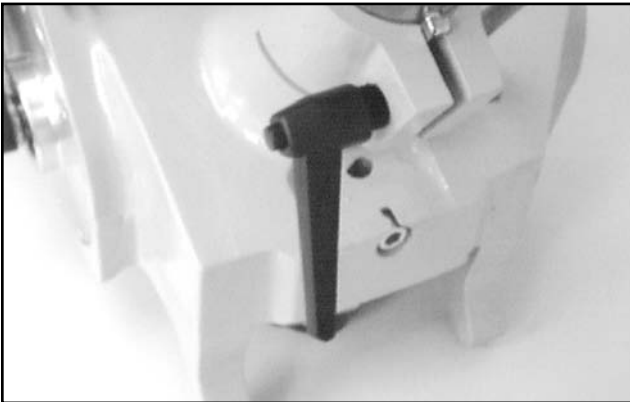

Fig. 10
2. Adjust the screw holding the tube. (fig. 10)